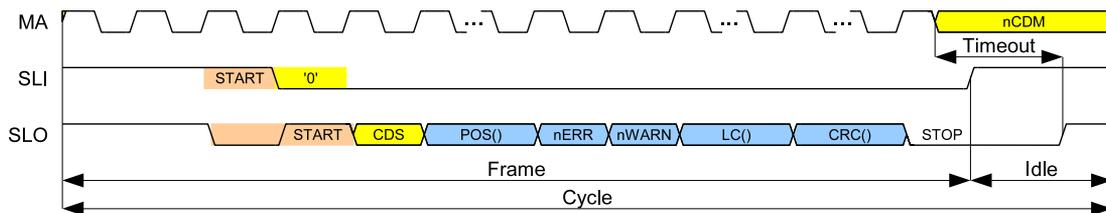

Figure 29: BiSS transmission sequence
The implemented BiSS slave interface can be selected via port configuration pins as described in INTERFACE PORTS on page 20. As BiSS and SSI share its physical ports, the interface of choice has to be enabled additionally via **SSI\_EN**. A BiSS transmission is illustrated in Figure 29. Data is sampled on the first rising edge of MA and transferred with MSB first.
The Single Cycle Data (SCD) is transmitted in the format highlighted blue in Figure 29. According to Table 39, the format includes the multiturn position followed by the singleturn position, one low-active error bit, one low-active warning bit, an optional 6-bit sign-of-life counter (LC) and a 6-bit or 16-bit CRC value. The position data is affected by the offsets **MT\_OFF** and **ST\_OFF**.